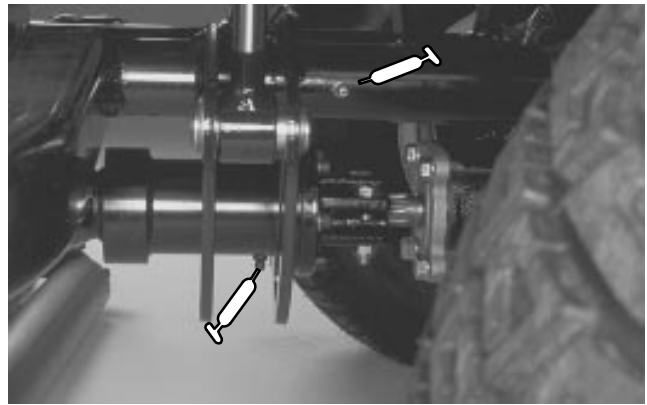
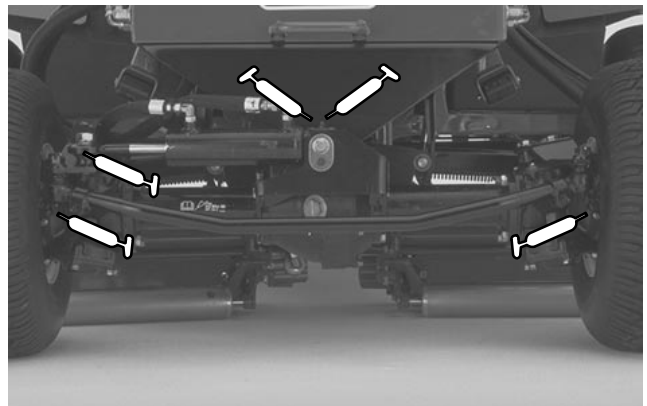
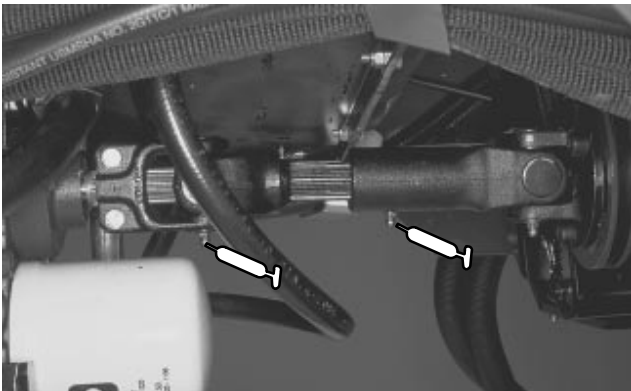
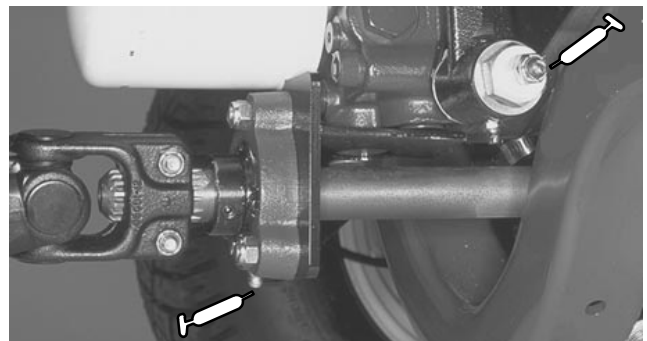

Figure 39
Figure 40
Figure 37
Figure 41
(Fig. 37 – 44)
1. The grease fitting locations and quantities are: Engine Drive shaft (3), (Fig. 37); Cutting unit carrier frame and pivot (2 ea.), (Fig. 38); Lift arm pivots (5), Drive shaft clutch (1) (Fig. 39); Rear axle tie rod (2), Steering cylinder ball joints (2), Rear axle pivot (1) (Fig. 40); Traction control linkage at transmission (1), Drive shaft support bearing (1), Rear axle drive shaft (3) (Fig. 41); Brake pedal (1) (Fig. 42); Lift cylinders (5) (Fig. 43) and Fan shaft (Fig. 44).